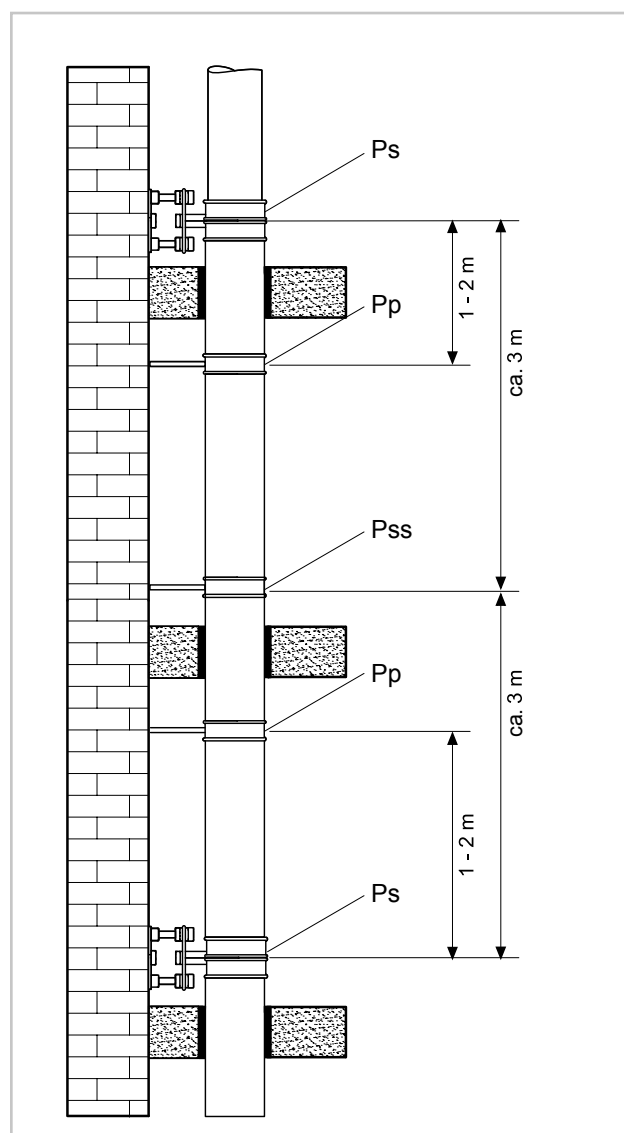

Fig. 4 Fixing of riser pipes
- assembly of pipe installation using special clamping rings BISMAT 1000 perform taking into account proper distances - Fig. 4.; clamping rings BISMAT 1000 install as fixed points at min. every second floor; installation of other fixed points and sliding points can be performed using standard clamps with rubber insert